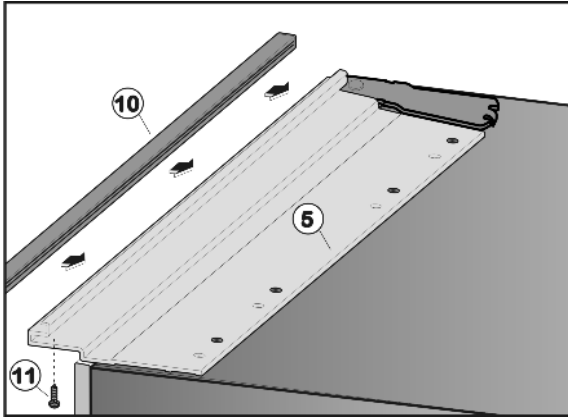

Fig. 34
- ▶ Position end strip *Fig. 34 (10)* over the installation contour *Fig. 34 (5)* and align it such that the holes in ventilation grille and installation contour are above each other.
- ▶ Screw end strip *Fig. 34 (10)* to installation contour *Fig. 34 (5)* from below using three screws *Fig. 34 (11)*.